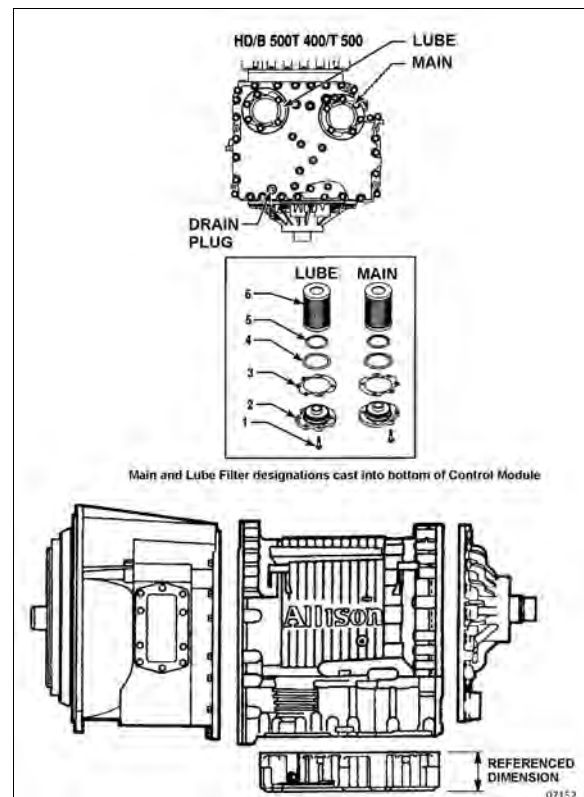

FIGURE 7: DRAIN PLUG AND FILTERS
2. Remove the drain plug from under the transmission (Figure 7) and allow the oil to drain into a suitable container. Check the condition of the oil as described previously.
3. Remove twelve bolts (item 1), two filter covers (item 2), two gaskets (item 3), two O-rings (item 4), two O-rings (item 5) and the two filters (item 6) from the bottom of the control module (Figure 7).
4. When reinstalling parts, lubricate and install new O-rings (4) and (5) on each cover (2). Lubricate O-ring inside filter (6) and push filter onto cover (2). Install new gaskets (3)